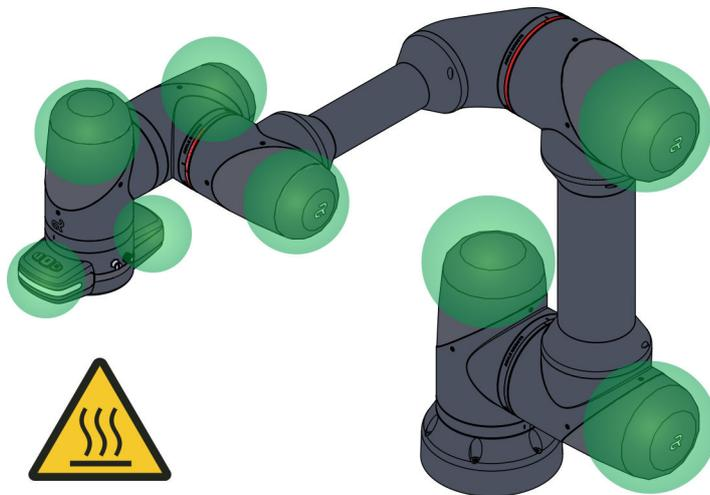

Fig. 59 Touch points (■) on the robot
- When guiding and operating the robot, only touch the caps and the media flange (touch points, Fig. 59).